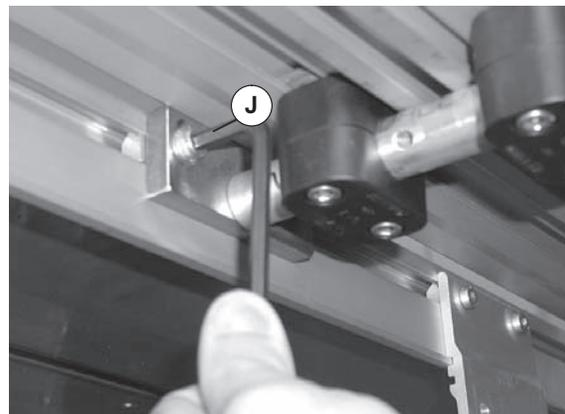

Figure 22
6. Tighten support bar mounting screws (Figure 22, item J) to 128.5 in-lbs (14.5 N-m).